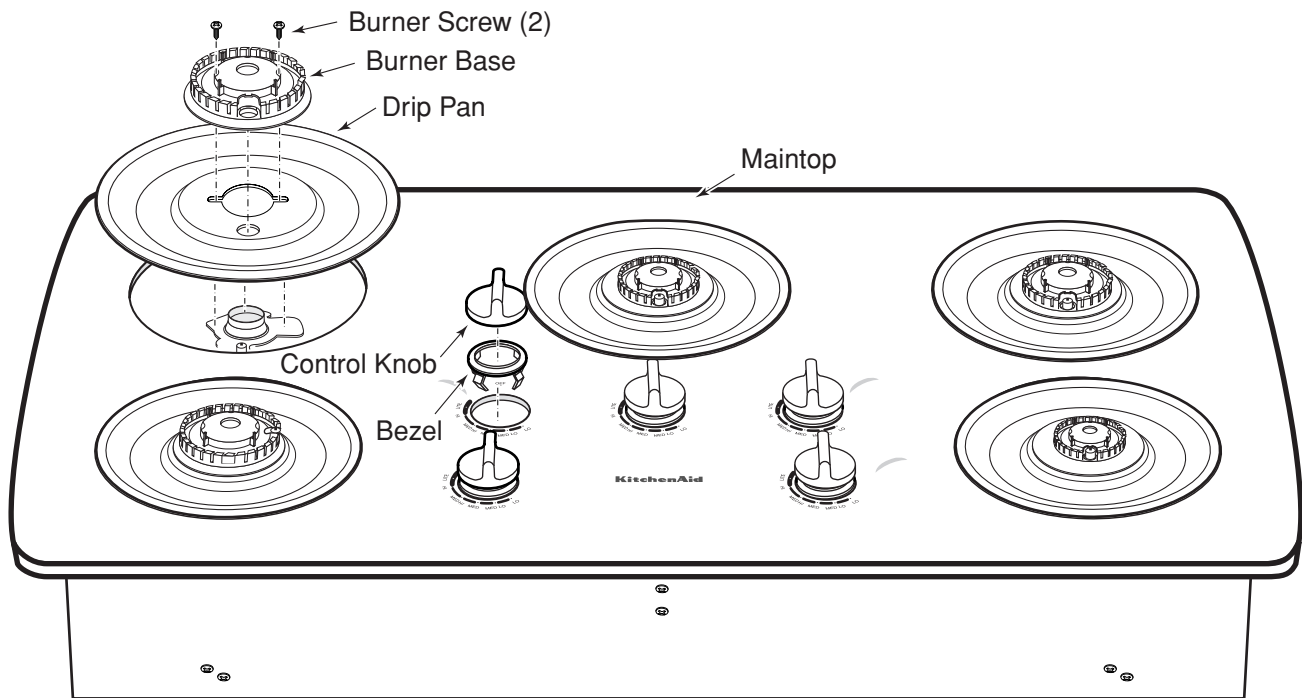

Figure 4-1
2. Remove the grates and burner caps. Refer to Figure 4-1 for the following steps.